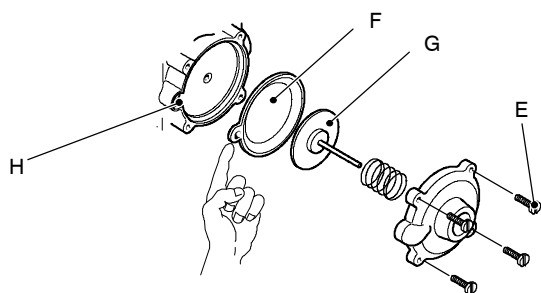

Fig. 54
- 3 Unscrew the four screws E (see Fig. 54) open the hydraulic operator and remove the membrane F.
**When assembling the membrane, ensure that its concave side faces towards the actuator plate G and the reference indicated aligns with the seat H (see Fig. 54).**